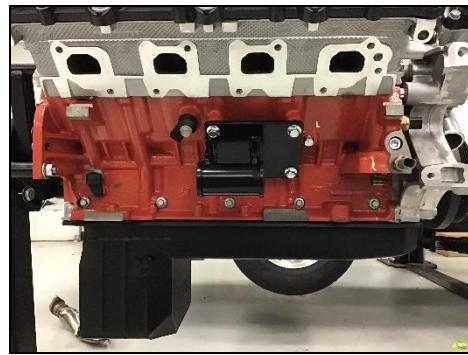

Figure 2
3. Attach the passenger's side mount as you did the driver's side in step two. It can be identified by the V in the baseplate and it will face downward also when installed (**Figure 2**).